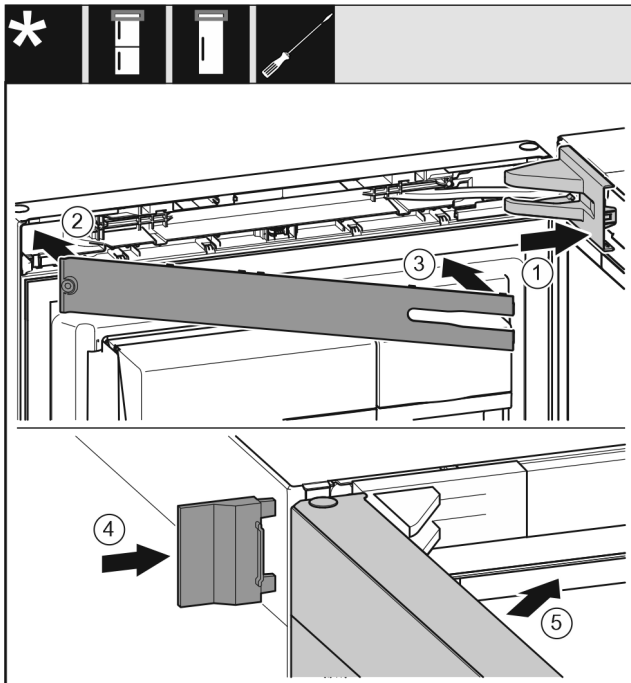

Fig. 25
- ▶ Put the swap bearing block cover Fig. 25 (1) on and engage, push apart carefully if required.
- ▶ Fit the trim Fig. 25 (2).
- ▶ Swivel in the cover Fig. 25 (3) and engage.
- ▶ Push the outer cover Fig. 25 (4) on.
- ▶ Close the upper door Fig. 25 (5).